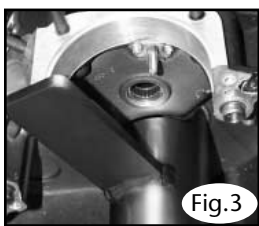

Fig.3
- 2: With the Cam side of case facing up, bearing centered over tool support and the of leg of support tool located as shown in Fig. 3. This will allow the case to set flat on support tool.